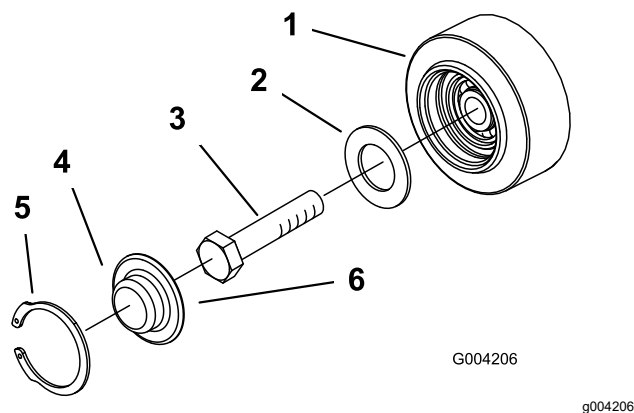

Figure 56
3. Remove the snap ring and cap from a road wheel (Figure 56).
4. Check the grease under the cap and around the gasket (Figure 56). If it is dirty, gritty, or depleted, clean out all of the grease, replace the gasket, and add new grease.